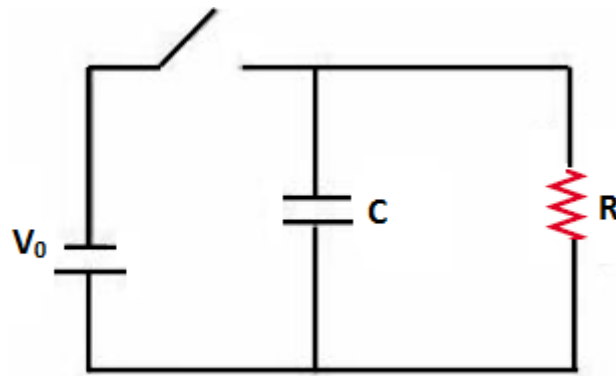

Figure 6.4 The experimental setup
- Set up the circuit in Figure 6.4 using a $10 \mu\text{F}$ capacitor without R resistor.
- Set up the circuit in Figure 6.4 by using $R_1 = 1M\Omega$ resistor and $C_1 = 100 \mu\text{F}$ capacitor.